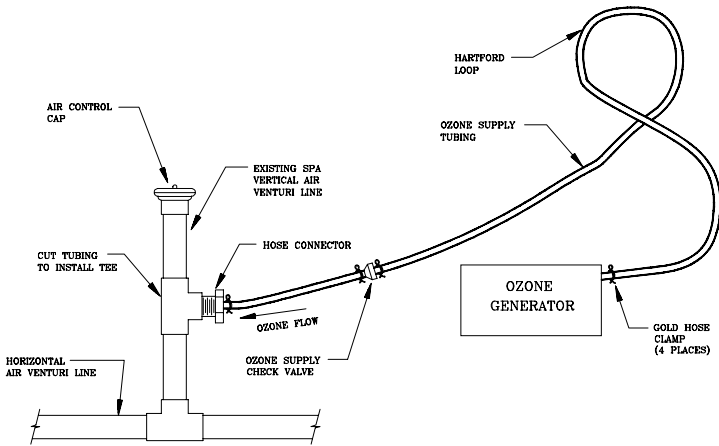
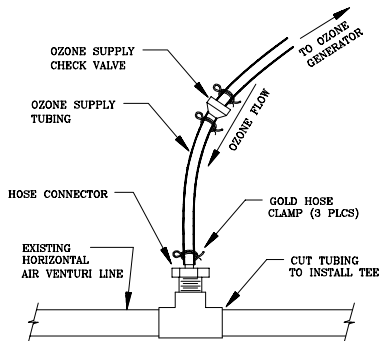
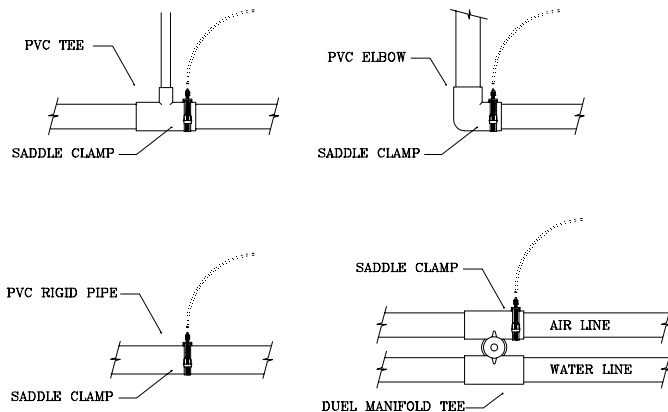
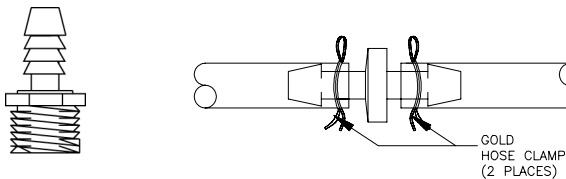

Figure 2: Vertical Air Venturi Line (Location “A”)
Figure 3: Horizontal Air Venturi Line (Location “B”)
Figure 4: Possible Saddle Clamp Locations
Figure 7: Plastic Hose Connector & Check Valve
**LOCATION "A" & "B" (see Figures 2 & 3):** These are the most common connection locations. The assembly procedures are the easiest and sufficient ozone dispersion is provided. They can be used if the air control valves completely close.
**LOCATION "C" (see Figure 2):** This location is used if the air control valve does not have a defined closed position.
Turn off the electrical power and drain the spa at least 12 inches below the selected “A” (Figure 2) or “B” (Figure 3) location. The installation instruction for locations “A” & “B” are identical except that location “A” utilizes a vertical air venturi line and location “B” utilizes a horizontal air venturi line. Use the spa’s venturi air line which provides the best suction and is connected to the lowest jet. (See NOTE on page 5).
**NOTE:** The saddle clamp assembly (Figure 4) may be used if the spa is plumbed with rigid PVC pipe or if there are any rigid locations on the air venturi line such as a tee or elbow fitting. Saddle clamps can be ordered through your local dealer using DEL part number 9-0001. If the spa is plumbed with flexible PVC pipe, an appropriately sized PVC tee fitting, with the center having 1/2” female threads (not included) must be installed (see Figure 3). The plastic hose connector threads into the tee fitting.
A plastic hose connector installed onto the air venturi line may be used when the spa is not “ozone ready”. The plastic hose connector can be purchased from your dealer using DEL part number 7-0127 (see Figure 7). Select a convenient location, that provides enough room to work, to install the PVC tee fitting with 1/2” female threads (not included). Cut the existing air venturi line at the selected “A” or “B” location (see Figures 2 & 3). Glue the fitting into place. Be sure to use “FLEX-TO-RIGID” PVC Cement. Wrap Teflon tape on the plastic hose connector threads and install into the tee fitting.
If no other installation location is available on your spa, a saddle clamp assembly can be utilized. Please contact your local dealer to order DEL part number 9-0001. To use the saddle clamp assembly, find a suitable location to secure it. Possible locations are shown in Figure 4. Be sure the chosen location is part of the air venturi system and that there is enough clearance to tightly secure the saddle clamp. Drill a 3/8” diameter hole at the chosen location. BE CAREFUL not to drill through the back of the pipe or fitting. Push the nipple into the hole and secure by tightening down the saddle clamp.
Make sure the water flow arrow on the ball valve is pointed toward the spa. Locate the plastic hose connector, wrap 3 layers of teflon tape on the threads (do not use thread sealant), and install it hand tight into 1/2” female pipe thread fitting of the DEL Rigid Injector Manifold. Tighten the plastic hose connector 1/2 turn with a wrench. Secure one end of the ozone supply tubing to the barb end of the plastic hose connector with a supplied gold hose clamp. Locate the ozone supply check valve and install it into ozone supply tubing by cutting tubing in two separate places approximately 4’ from the ozone generator and insert the check valve between each cut, securing both ends of the check valve with gold hose clamps as shown in Figure 7.